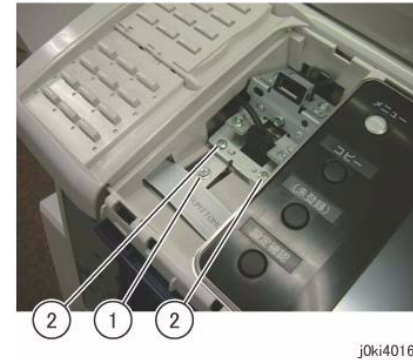

Figure 3 Remove the screws
5. Remove the screws that secure the USB Connector. (Figure 3)